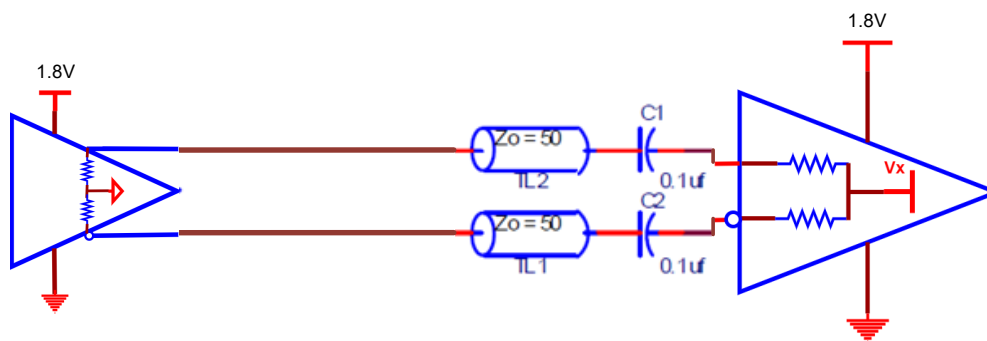

Figure 5. HCSL Dual-Termination for Receivers with Internal Terminations
- Figure 5. HCSL Dual-Termination for Receivers with Internal Terminations4
Figure 5 shows a common HCSL termination scheme for receivers with internal terminations. Internally, the receiver will have a Thevenin-equivalent termination consisting of two series 50Ω resistors center-tapped to a bias voltage. Due to the receiver’s internal DC-offset, the HCSL driver should not be DC-coupled. This requires that the interface be AC-coupled and that the HCSL terminations be provided at the driver. In this case, the topology is simplified by using the FC3’s internal terminations. The combination of the FC3 internal termination and the receiver’s internal termination creates a dual-termination scheme, which improves the signal quality but reduces the signal amplitude by half. In this case, the FC3 amplitude should be set to the maximum setting of 950mV.